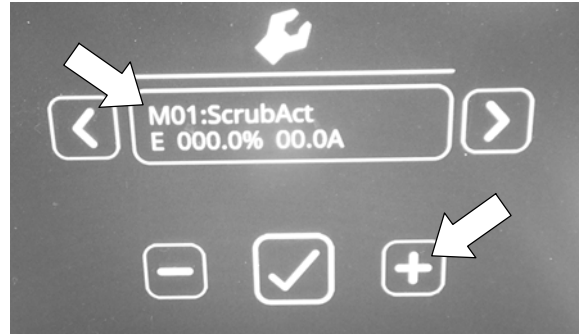

Fig. 20
c. Scroll to the “M01:ScrubAct” mode (Figure 20). Press the [+] button to set the actuator in the extend direction.